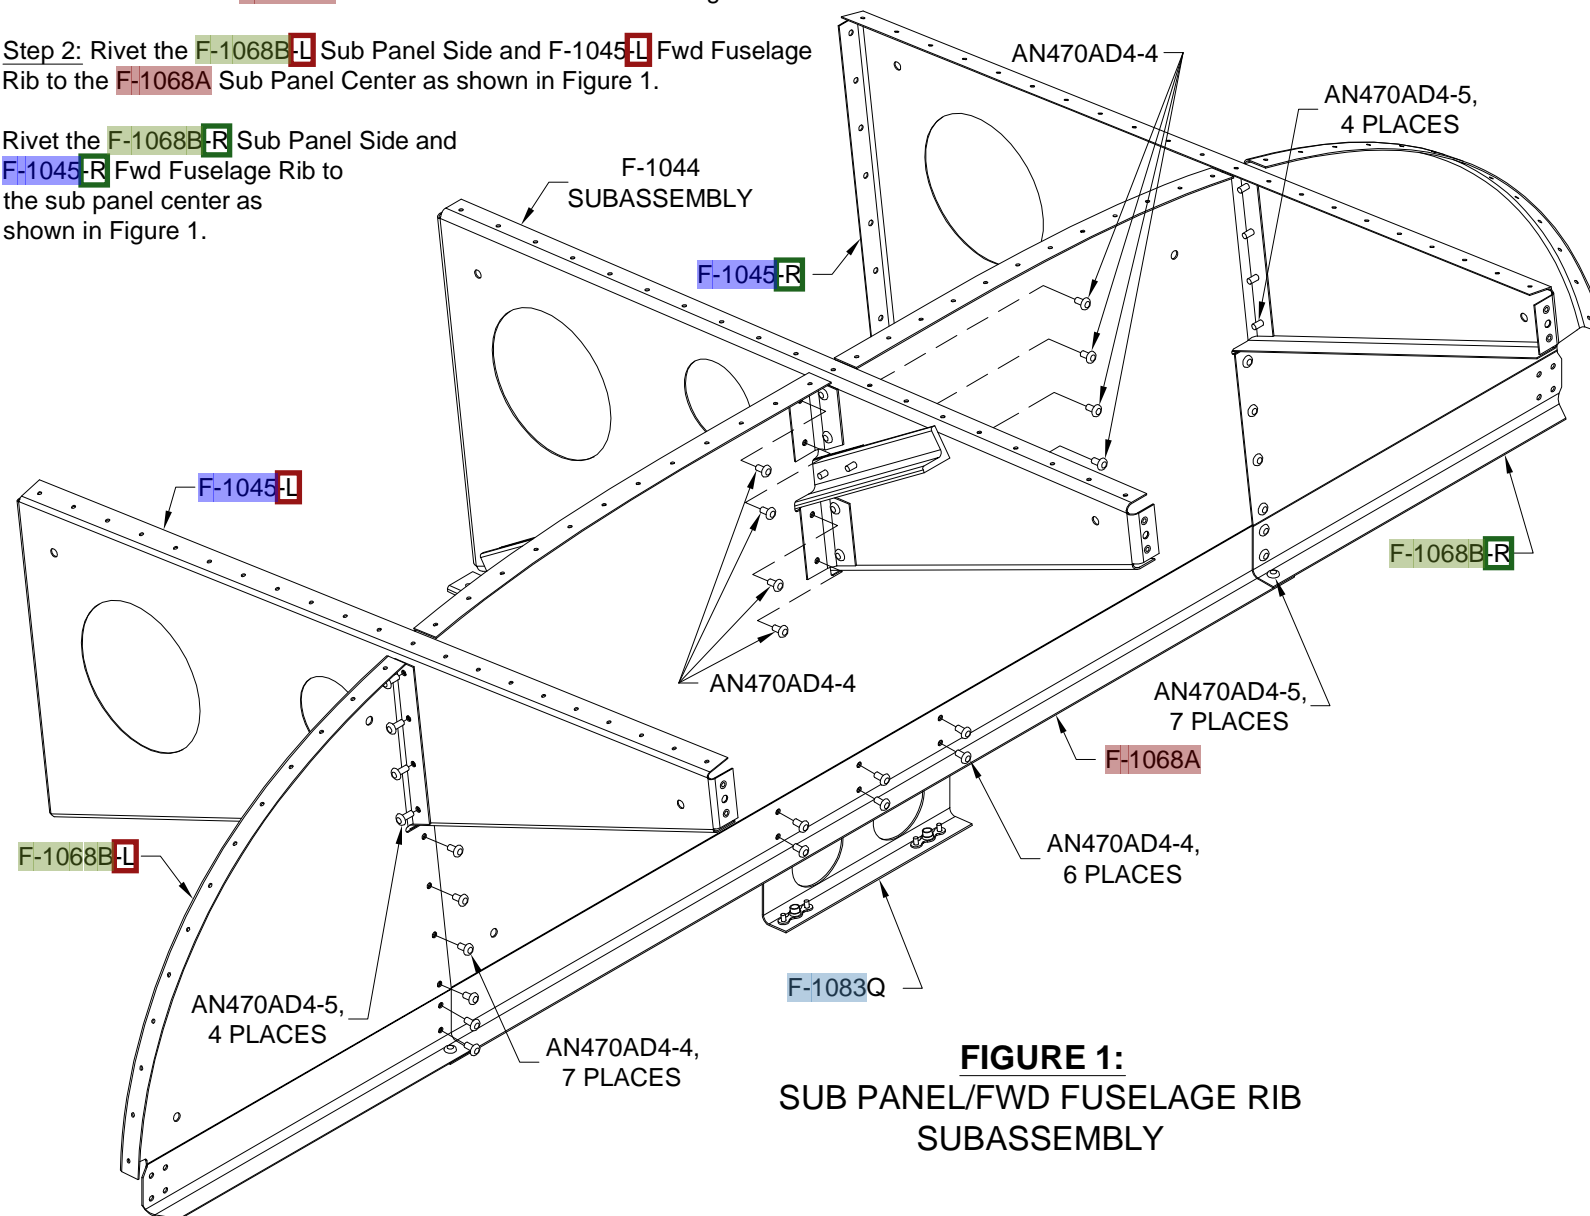

FIGURE 1:
Step 1: Rivet the F-1044 Fwd Fuselage Rib Subassembly and F-1083Q Quadrant Mount Bracket to the F-1068A Sub Panel Center as shown in Figure 1.
Step 2: Rivet the F-1068B-L Sub Panel Side and F-1045-L Fwd Fuselage Rib to the F-1068A Sub Panel Center as shown in Figure 1.
Rivet the F-1068B-R Sub Panel Side and F-1045-R Fwd Fuselage Rib to the sub panel center as shown in Figure 1.